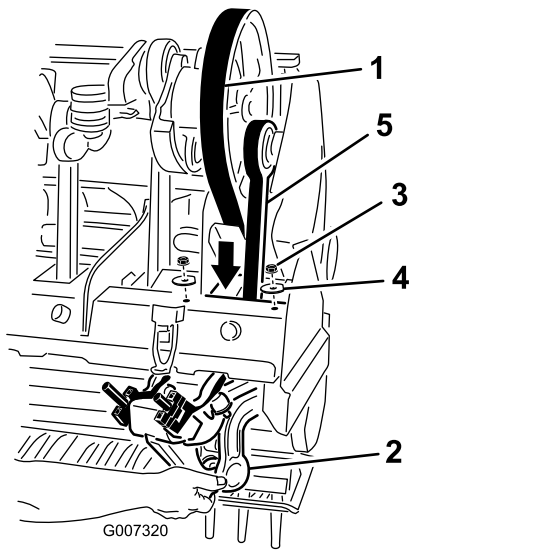

Figure 39
5. Loosen and remove the 2 locknuts and washers securing the rotalink damper for the #1 stomper arm (Figure 39).
- Route the drive belt down through the coring head frame and around the lower end of the #1 stomper arm (Figure 39).